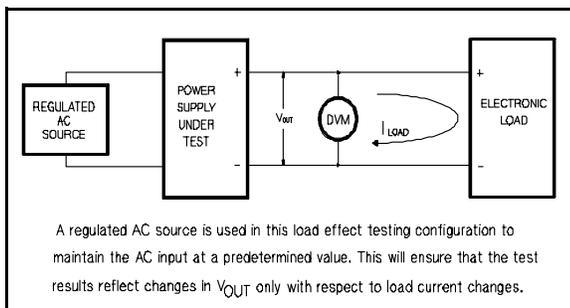

Figure A-6. Basic Test Setup
- a. Connect the test equipment across the output of the +20V supply as shown in Figure A-6. Operate the electronic load in constant current mode and set its current to the full rated value of the +20V supply.
- b. Connect the test equipment across the output of the +20V supply as shown in Figure A-6. Operate the electronic load in constant current mode and set its current to the full rated value of the +20V supply.
- Connect the test equipment across the output of the +20V supply as shown in Figure A-6, but replace the DVM with the oscilloscope. Operate the electronic load in constant current mode.
- Connect the test equipment across the output of the +20V supply as shown in Figure A-6.